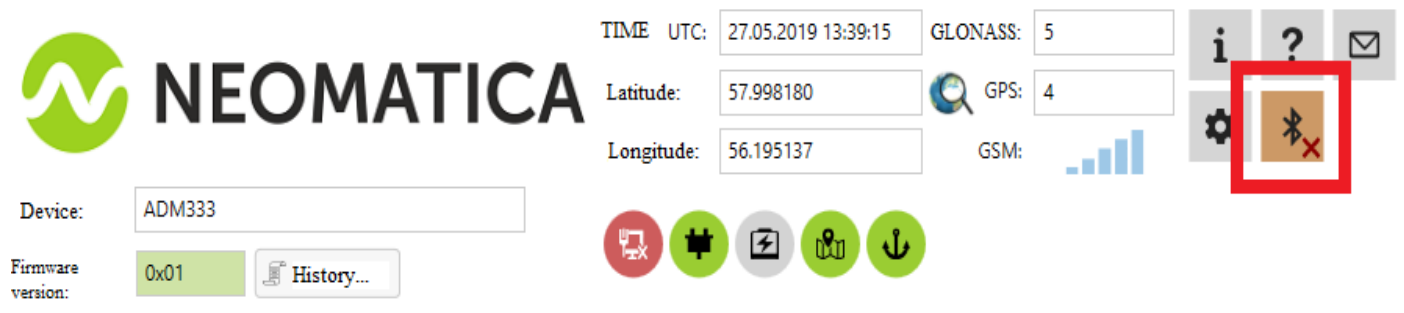

Figure 6 – ADM Configurator: "disable device button"
- 7) After the device setting, if connection of another tracker is required, click "disable device" in the upper right corner of the ADM Configurator. The ADM Configurator will go into a standby mode as shown in the Figure 6.